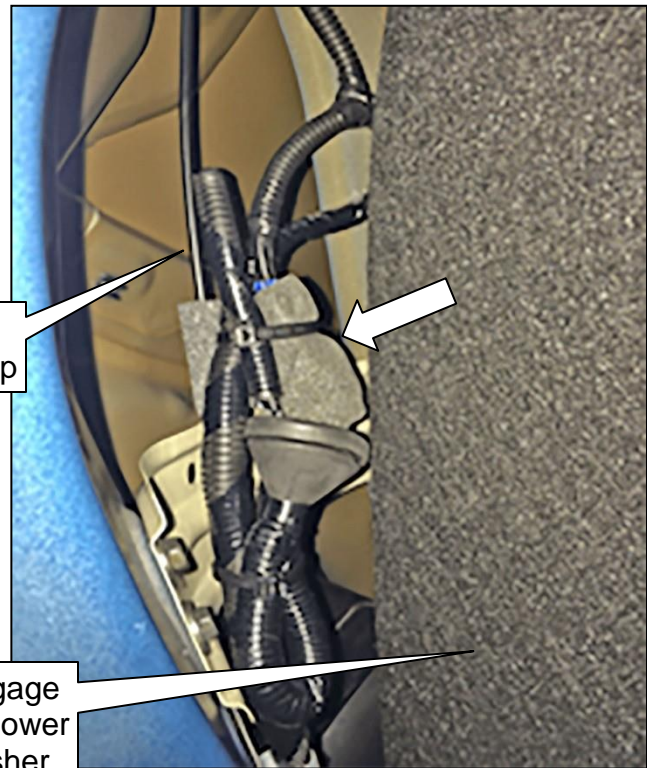

Figure 12
17. Locate the foam wrapped inside harness connector shown in Figure 12.